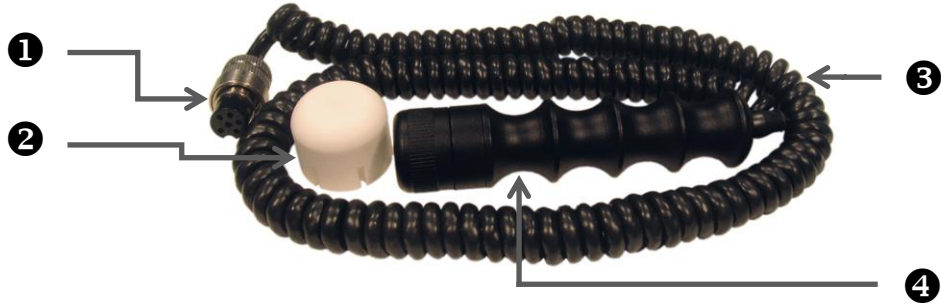
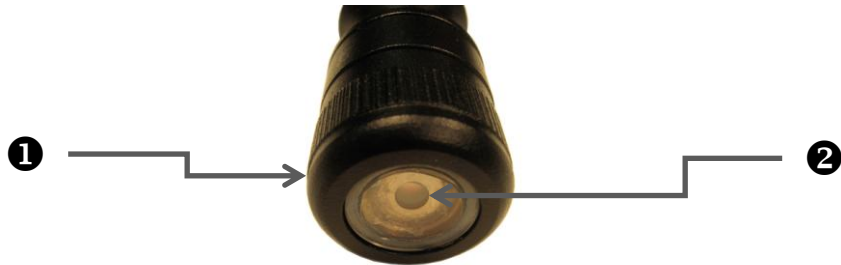
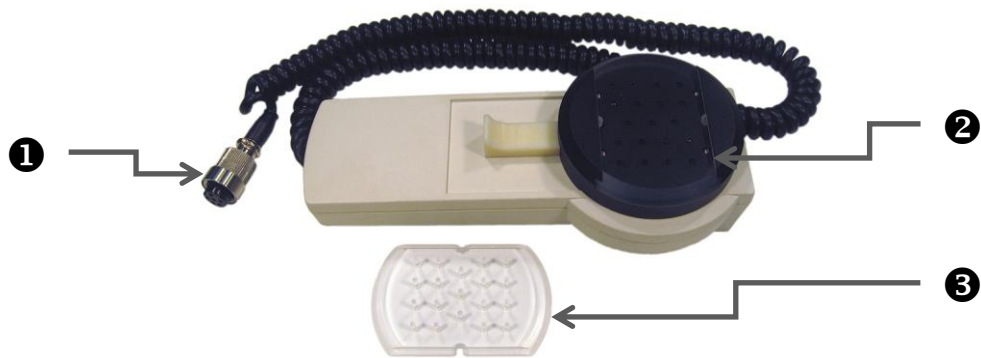
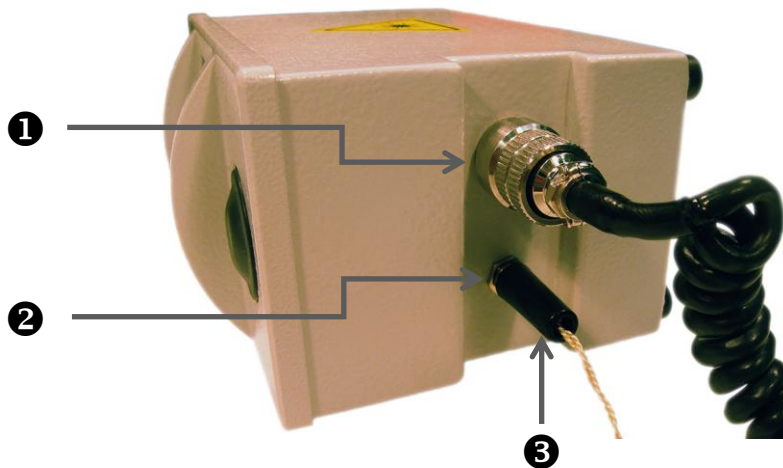

Figure 2. Standard therapeutic laser head (300 mW).
Figure 3. Light emitting module (300 mW).
Figure 4. Optional "laser shower" head (95 mW).
Figure 6. Side panel of the **Favorite** control unit.
1. Fully charge battery before first use by plugging DC output of the AC adaptor in the socket ❷ (Figure 6). When charging, the charge indicator ❹ (Figure 4) lights red. When the battery is charged, the charge indicator ❹ (Figure 4) turns to green. The charge indicator ❹ (Figure 4) does not light up when the unit operates from built-in rechargeable battery.
2. Connect the laser head plug ❶ (Figure 2) to the socket ❶ (Figure 6) on the side panel of the control unit.
3. Insert the safety key ❸ (Figure 6) into the socket ❷ (Figure 6) on the side panel of the control unit.
4. Remove the safety cap ❷ (Figure 2) from the laser head ❹ (Figure 2).
10. The **Favorite** laser can be used with optional "laser shower" head (Figure 4), which contains 19 individual laser emitters (5 mW each) combined in a cluster. The "laser shower" head works in mode #6 only.
11. Special enhanced protective glass with 19 fiber optic pins (fiber optic "brush") ❹ (Figure 4) can be used with optional "laser shower" head to improve delivery of generated light through the fur of animal to the skin. To mount optical "brush", first remove flat protective glass ❷ (Figure 4) by pulling the white trigger and sliding the glass sideways. Place the "brush" by sliding it in the slot where the flat protective glass was. The trigger will secure it in position where it is perfectly aligned with laser emitters.
4. Do not use standard laser head without the collimator ❶ (Figure 3) or optional fiber optical tip. Do not use optional “laser shower” head without protective flat polycarbonate glass or fiber optical “brush” ❷ (Figure 4). Otherwise, it may cause damage to the laser emitter(s).
6. When disconnecting the laser head from the control unit, unscrew the connector nut first and then pull the connector body from the socket ❶ (Figure 6). **Never pull the cable** to disconnect!